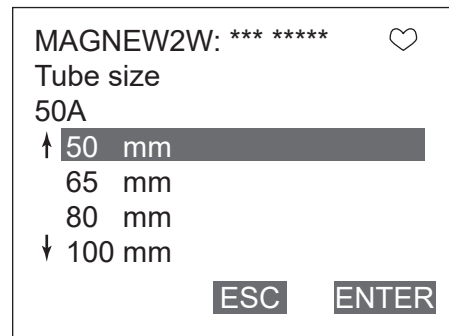

Fig. 7-19.
2. Once the display as shown in Fig. 7-19. appears, move the arrow key up or down to select a detector diameter. After making a selection, press F4 (ENTER). If F3 (ESC) is pressed here, the selection will be canceled and the display will return to the Detector config menu.